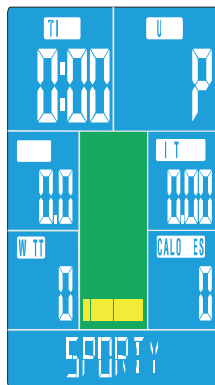
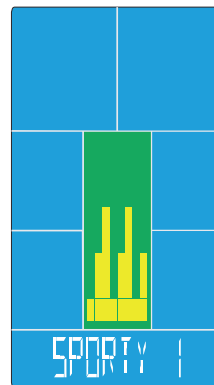

FIGURE 13
FIGURE 14
6. If select SPORTY function (figure13), press MODE confirm to next step. Set SPORTY 1~4 (figure14), press UP/DOWN to select SPORTY 1, and press MODE to confirm entering this mode, you can press UP/DOWN button to adjust and set TIME or directly press START button to start workout. After START, press UP and DOWN buttons to adjust motor LOAD. When the graph is executed to the ninth STEP, it is shifted to the left by the scroll bar, and so on.